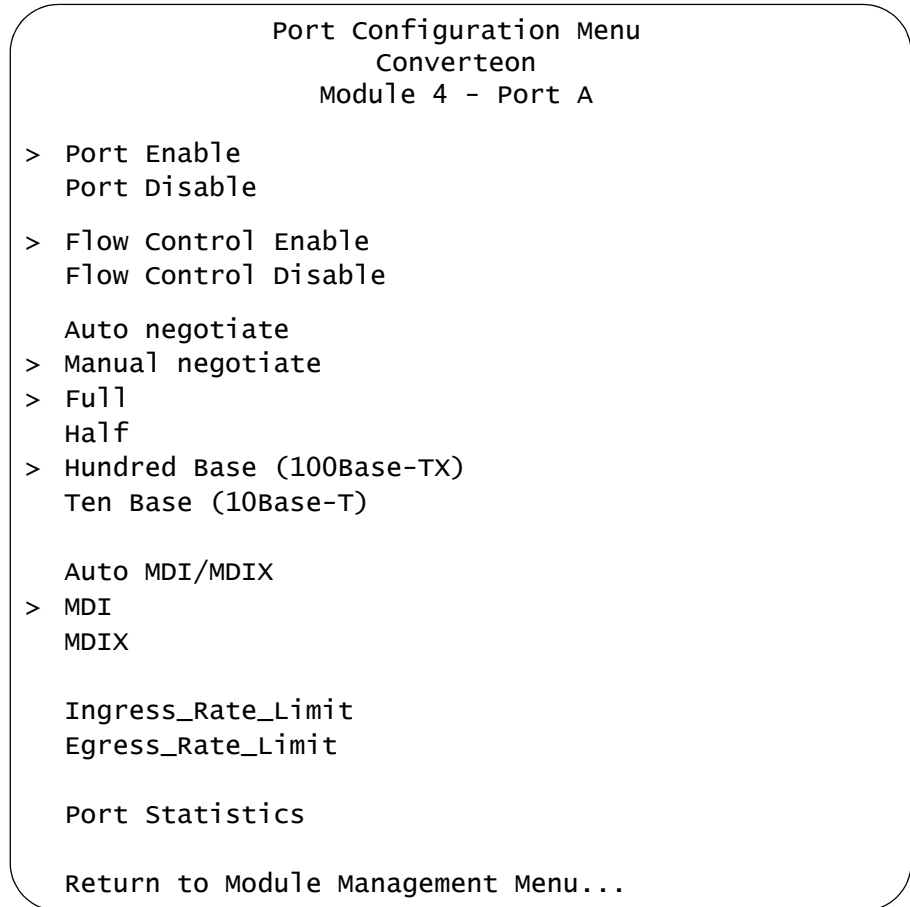

Figure 65. Port Configuration Menu
4. Select **Port Configurations**. The Port Configuration Menu for the selected port is displayed. The options in the menu vary depending on the type of port and card. The example in Figure 65 is for a twisted pair port.